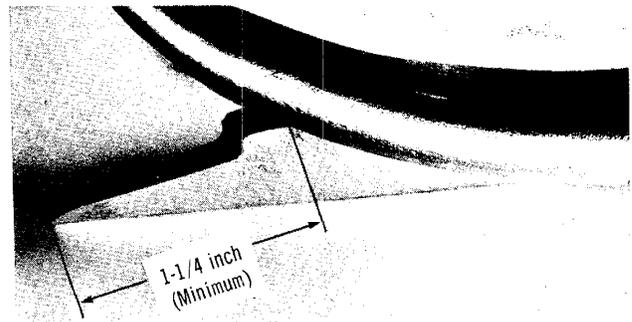

Fig. 22 – Gaff Sharpened to Minimum Length
8.01 When climber gaffs need sharpening and the desired sharpness cannot be obtained by honing as described in Part 7, the craftsman shall exchange them for a pair in good condition. Remove the straps and pads, also the sleeves unless they are riveted, for reuse on good climbers. Equip the climbers to be returned with gaff guards and tape or otherwise tie them together. Fig. 22 illustrates a gaff that has been machine sharpened a number of times, to the minimum length that shall be used.